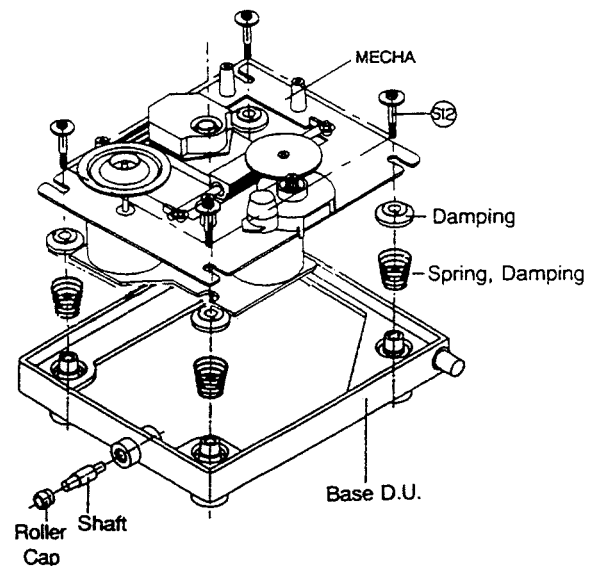

Fig. 4
2. Remove four screws S12 (See Fig. 4).